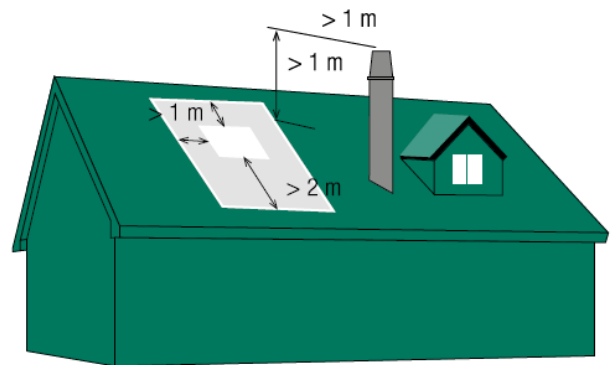

Figure 10.6
- If there are windows or openings on the same roof where the chimney is installed, it must be raised one metre above and also respect the distances indicated in figure 10.6.